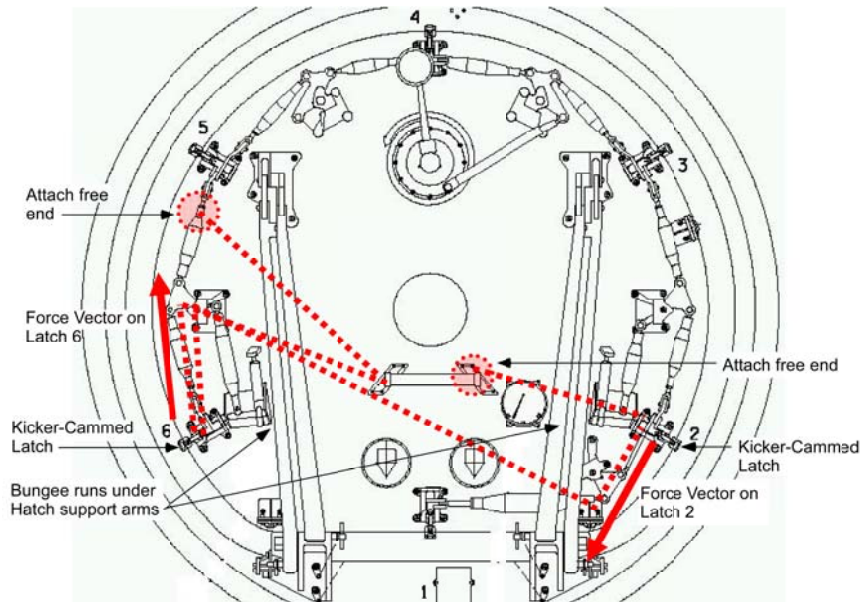
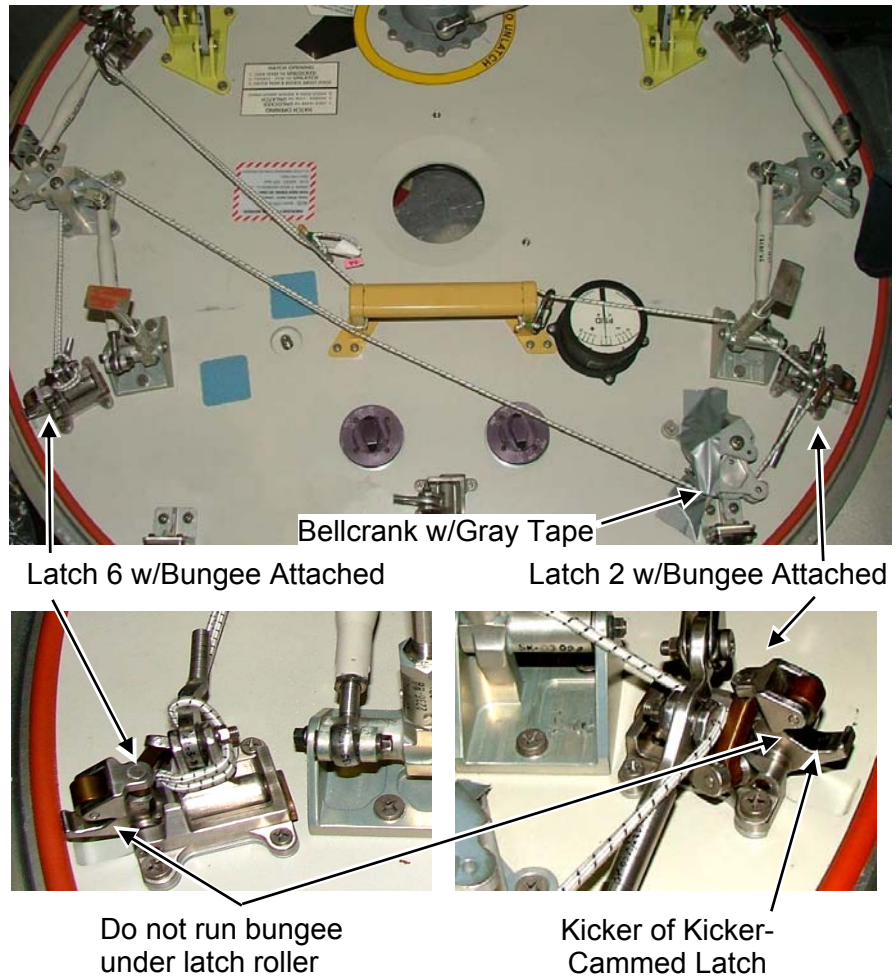

Figure 5
Figure 6
10. Tie adjustable bungee so as to pull kicker-cammed latches 2,6 to full open posn (figs 5,6)
Bungee should be tight and run underneath hinge arms that attach the hatch to inside of airlock. Fig 5 shows force direction needed to actuate latches 2,6 to full open posn. Fig 6 shows recommended bungee config at latches 2,6
11. Rotate bellcrank to farthest inboard posn and gray tape in place (fig 6)